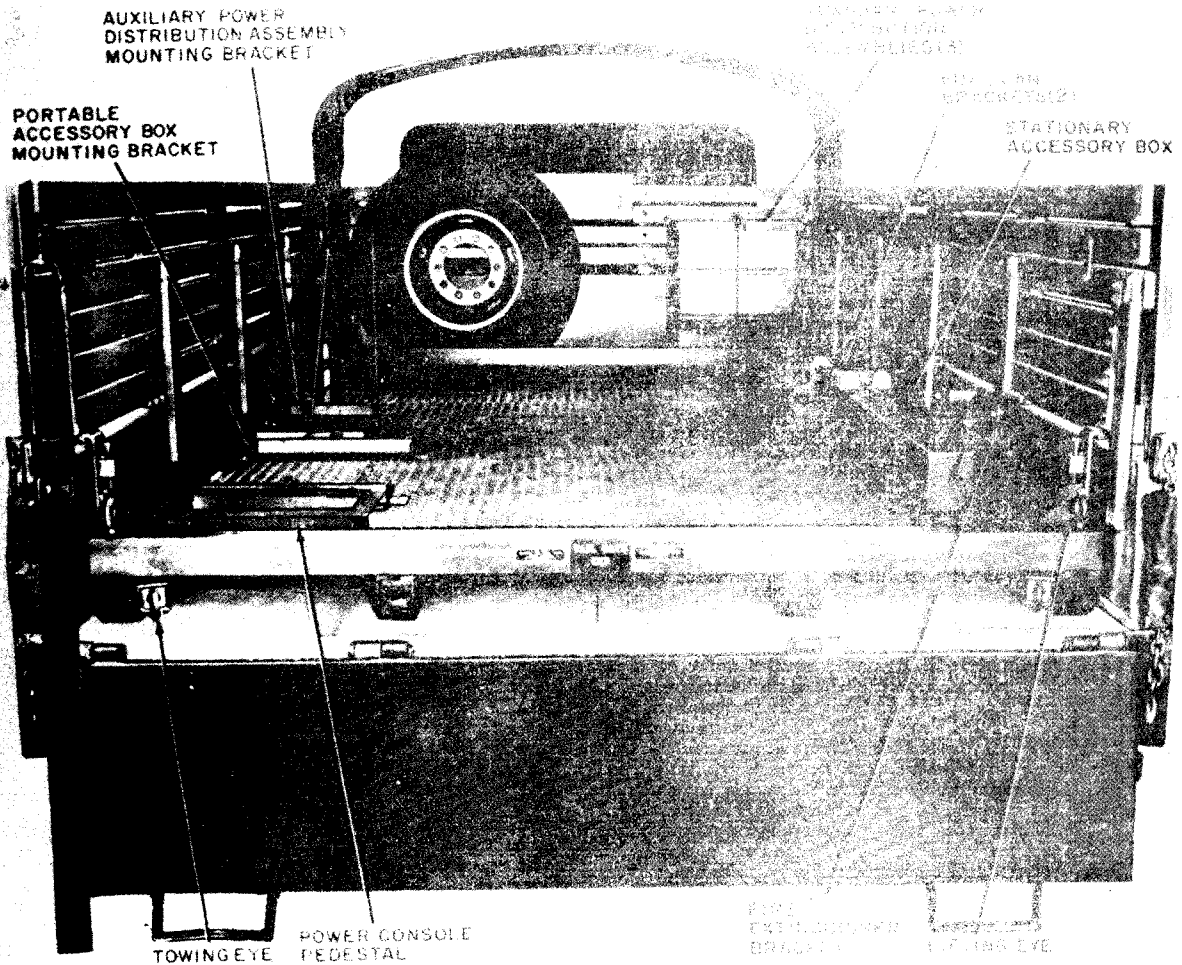

Figure 5-4. Skid platform, ready for mounting of 100 generator suit.
(3) Lower truck tailgate; raise skid platform and back truck underneath skid.
(4) Lower and guide skid platform onto truck cargo bed. Before removing sling assembly, inspect to see that skid platform does not interfere with closing of truck tailgate.
(5) Aline adjustable bracket assembly and clamp with platform bracket assembly.
(6) Slide platform bracket assembly toward side of cargo body. Turn clamping bolt until it engages threads in platform bracket assembly.
(7) Tighten horizontal bolts. Install and tighten vertical adjustment bolts.
(8) Tighten bracket clamping bolt fully, and inspect all bolts to see they are secure. Should now look as shown in figure 5-4.